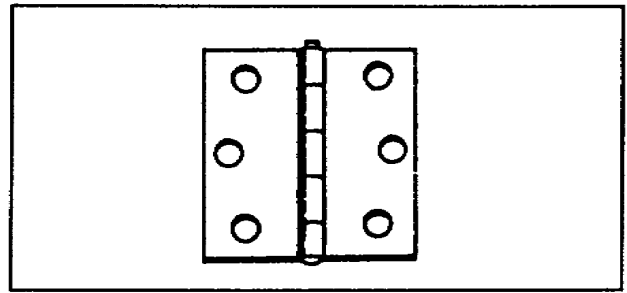

Figure 1-52. Full-mortise hinge
a. Full-Mortise. The full-mortise hinge (Figure 1-52) is cut or mortised (gained) into both the doorjamb and the door. The leaves of a full-mortise hinge are completely hidden, leaving only the barrel exposed when the door is closed.